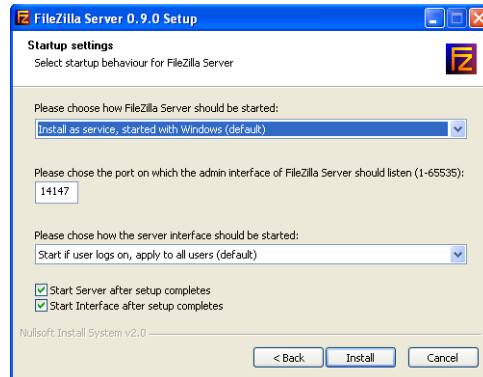

Figure 3-8: Server Setup Window
6. In the Startup Settings window (Figure 3-8), accept all of the default values.